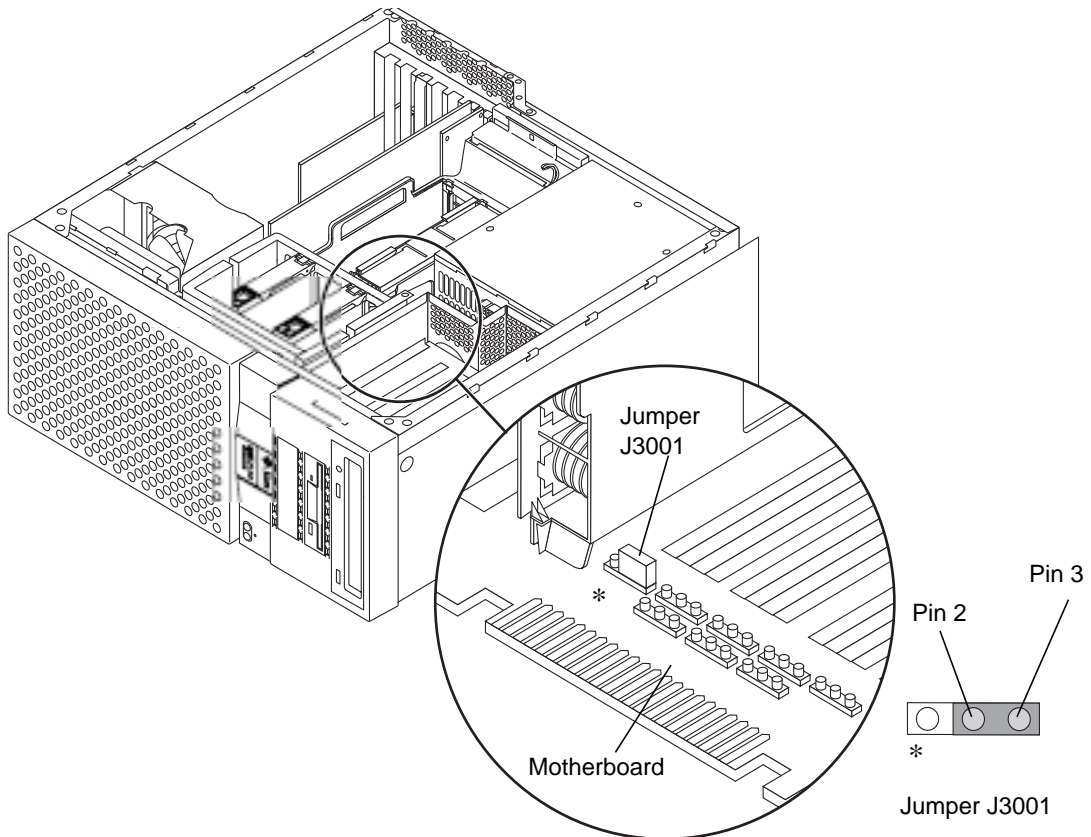

FIGURE 6 Position of Pins on Jumper J3001
1. Locate jumper J3001 (FIGURE 6).
2. **Verify that the position of the jumper is as shown (FIGURE 6).**